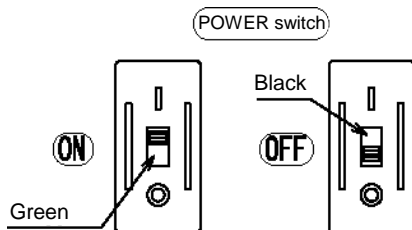

Figure 12 POWER Switch
3. Turn on the POWER switch of the DC adapter. (See Figure 12 below.)